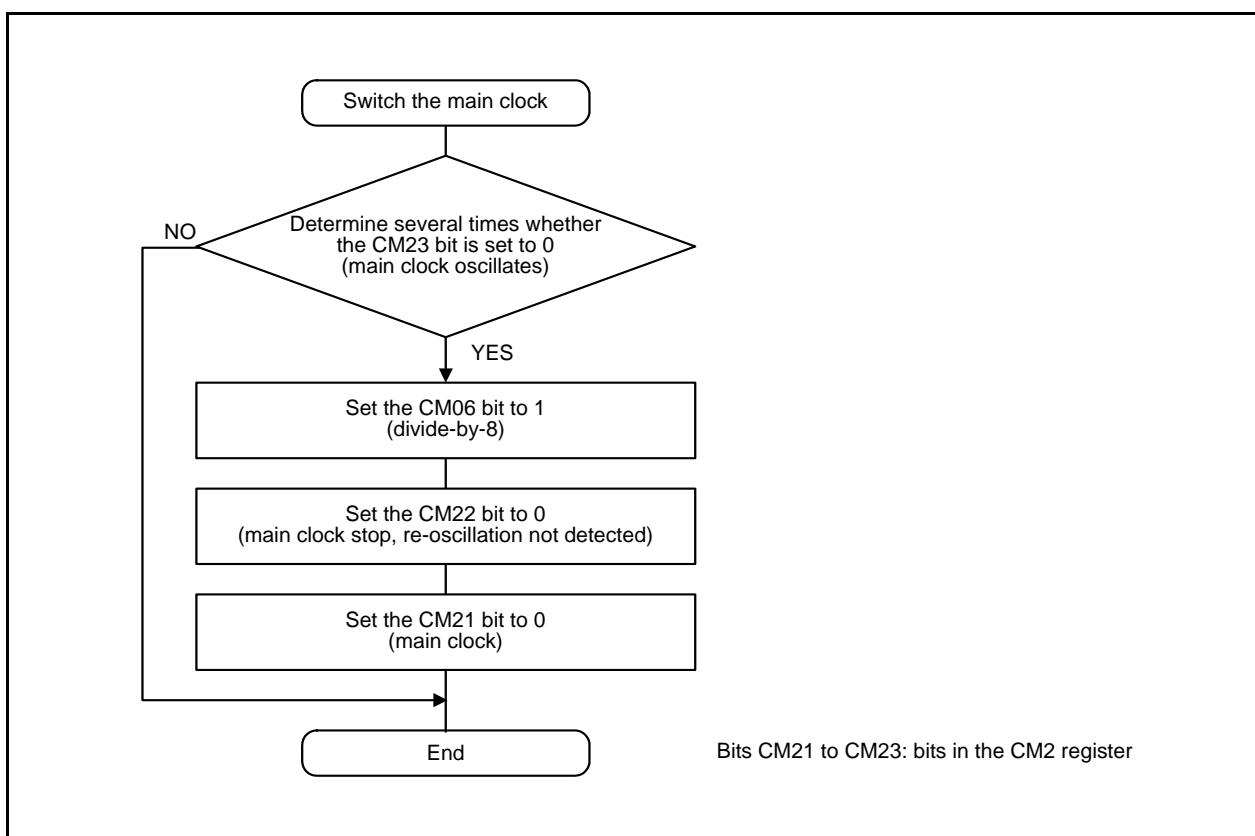

Figure 7.12 Procedure to Switch Clock Source from 125 kHz On-Chip Oscillator to Main Clock
- When the main clock re-oscillated after oscillation stop, the clock source for the CPU clock and peripheral functions must be switched to the main clock in a program. Figure 7.12 shows the Procedure to Switch Clock Source from 125 kHz On-Chip Oscillator to Main Clock.